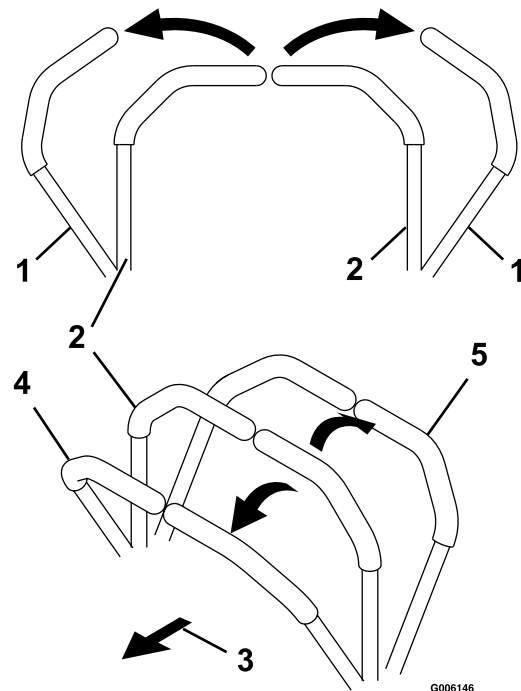

Figure 9
2. To go forward, slowly push the motion control levers forward (Figure 9).
To go straight, apply equal pressure to both motion control levers (Figure 9).
To turn, pull back on the motion control lever toward the direction you want to turn (Figure 9).
2. To go backward, slowly pull the motion control levers rearward (Figure 9).
To turn, release the pressure on the motion control lever toward the direction you want to turn (Figure 9).